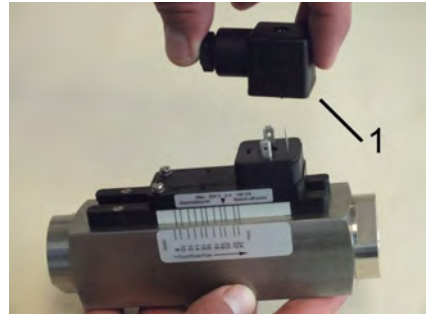

Fig. 74: Remove female socket
2. ▶ Remove the female socket and gasket (Fig. 74/1) by pulling upwards.